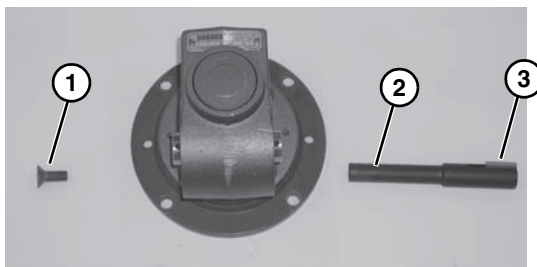

Figure 33
7. Remove shaft locking screw (**Figure 33, item 1**), remove gear reducer output shaft (**Figure 33, item 2**) and key (**Figure 33, item 3**).
*Output shaft (**Figure 33, item 2**) is held in Gear Reducer with a tapered press fit. Removal may require use of an arbor press.*
8. Insert the new shaft with key (**Figure 33, item 3**) into new gear reducer.